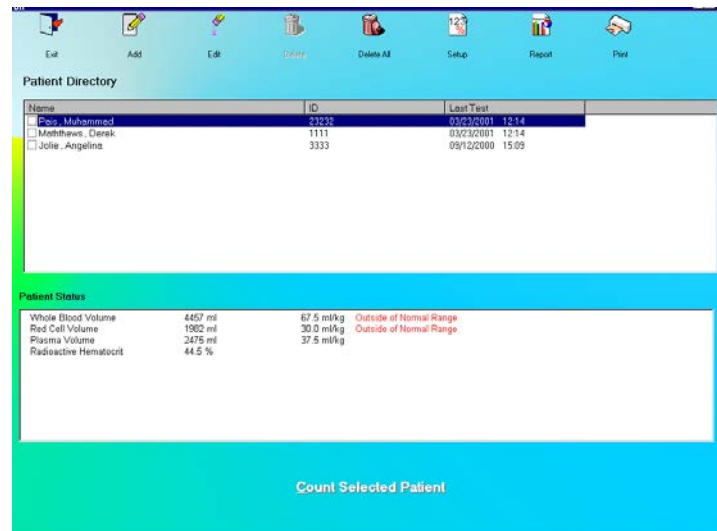
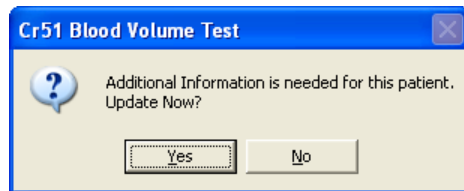

Figure 10-45 Cr51 Blood Volume Test Main Screen
Figure 10-50
Click the **Cr51 Blood Volume Test** button or press *Alt+C* on Figure 10-1 Lab Tests Main Screen. Figure 10-45 Cr51 Blood Volume Test Main Screen will appear. The **Patient Directory** box will be empty if there are currently no existing patients in the database. Each added patient will appear in this box with their name and ID number along with the time and
1. Click the  icon on Figure 10-45 Cr51 Blood Volume Test Main Screen. The screen appears as shown in Figure 10-46. This screen allows the user to enter counting parameters, which will be the default settings each time a patient is entered into the Cr51 Blood Volume Test patient directory. These settings may be changed as needed for any individual patient or patients.
3. Click the **Done** button to save changes or click the **Cancel** button to discard the changes and return Figure 10-45 Cr51 Blood Volume Test Main Screen.
1. Click the **Add** icon on Figure 10-45 Cr51 Blood Volume Test Main Screen. The Patient Information screen appears as shown in Figure 10-47, with information to be entered in three sections.
8. To add more patients, click the  icon on Figure 10-45 Cr51 Blood Volume Test Main Screen.
Selecting a patient with partially entered data will prompt you with the screen below (Figure 10-50). Click the  button or press the *Y* key to update the patient information or click the  button or press the *N* key to return to Figure 10-45 Cr51 Blood Volume Test Main Screen.
4. Click the  button to save changes or click the  button to discard the changes and Figure 10-45 Cr51 Blood Volume Test Main Screen.